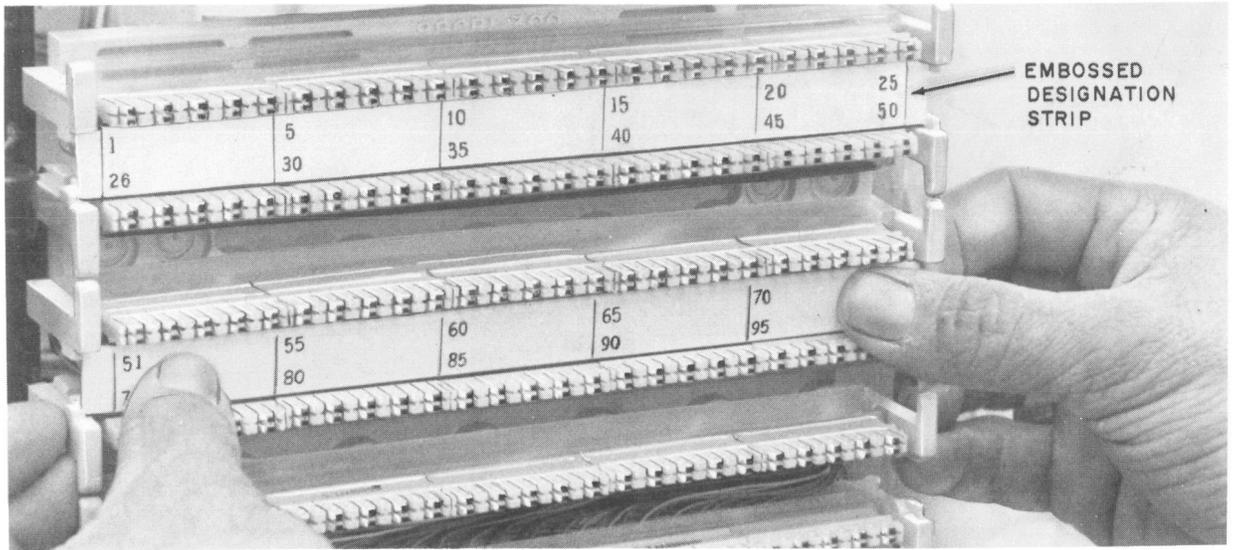

Fig. 25—Placing Designation Strip
11.01 Snap the green designation strips on the feeder (center) panel with pair 1 at upper left (Fig. 25 and 26).